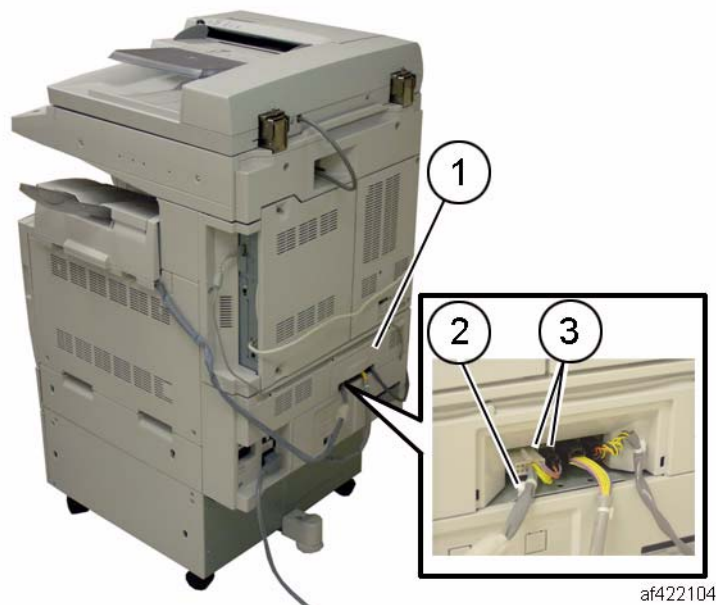

Figure 1 Disconnecting the Connectors (af422104)
1. Disconnect the A-Finisher Wire Harness. (Figure 1)